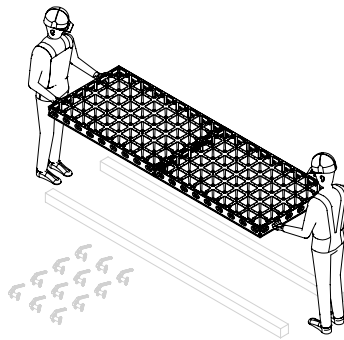

Fig. B1.12
3. Place a second panel unit next to the first panel unit and connect them at the long joint using DUO couplers (20). (Fig. B1.12 + B1.13)